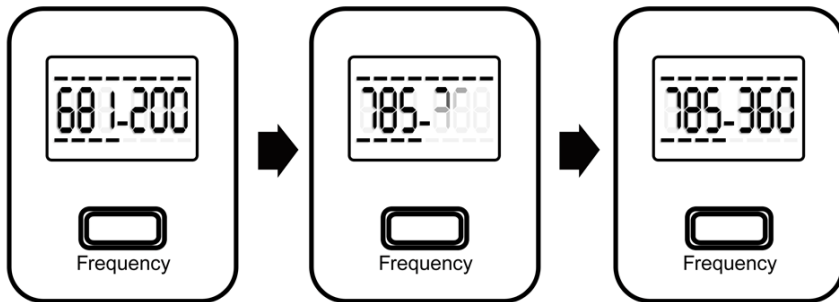

FIG. 5
- 1 Press and release the **Frequency** button. (FIG. 5)